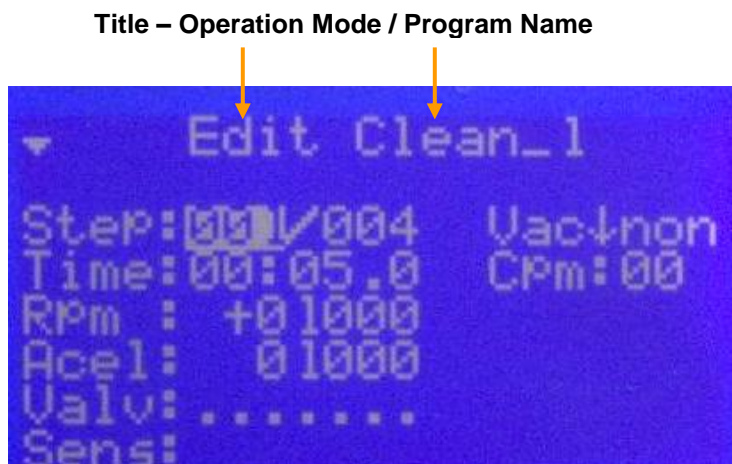

Figure 3-15
Press the “Edit Mode” key to enter a selected program into the edit mode. Figure 3-15 shows the Edit screen.
3.4.3.1 EDIT MODE – Displayed Fields – see figure 3-15